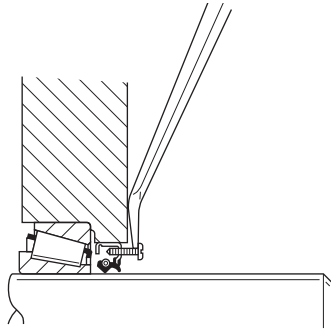

Figure 1B
2. Insert two #10-.750" sheet metal screws into the seal leaving .500" of the screw protruding above the seal face. DO NOT drive the screw more than .250" beyond seal face or bearing damage may occur. Use a claw type pry bar under the screw head as shown in Figure 1B and lift the seal out. Remove all chips. Use a magnet to remove the chips that fall into the bore. Remove Permatex from the seal cage bore.